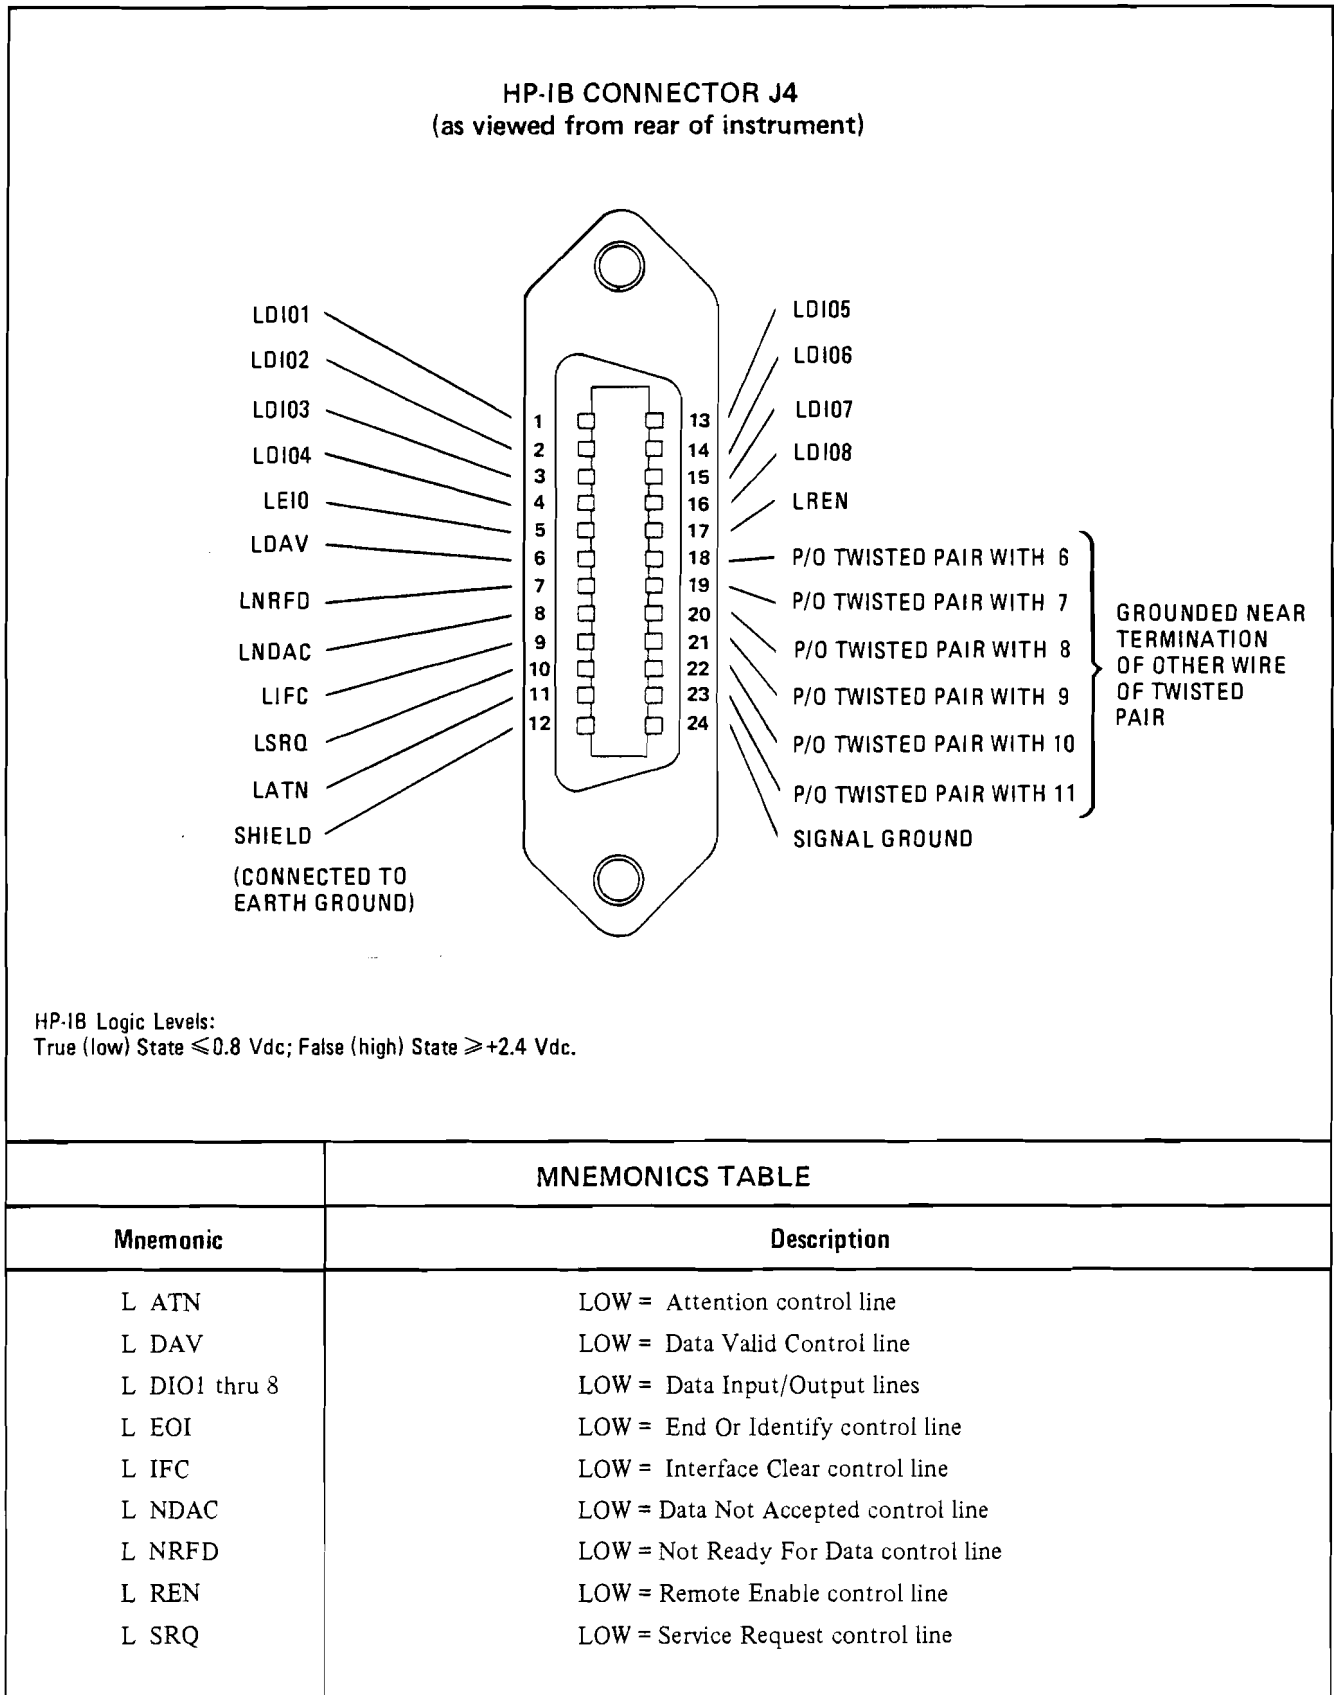
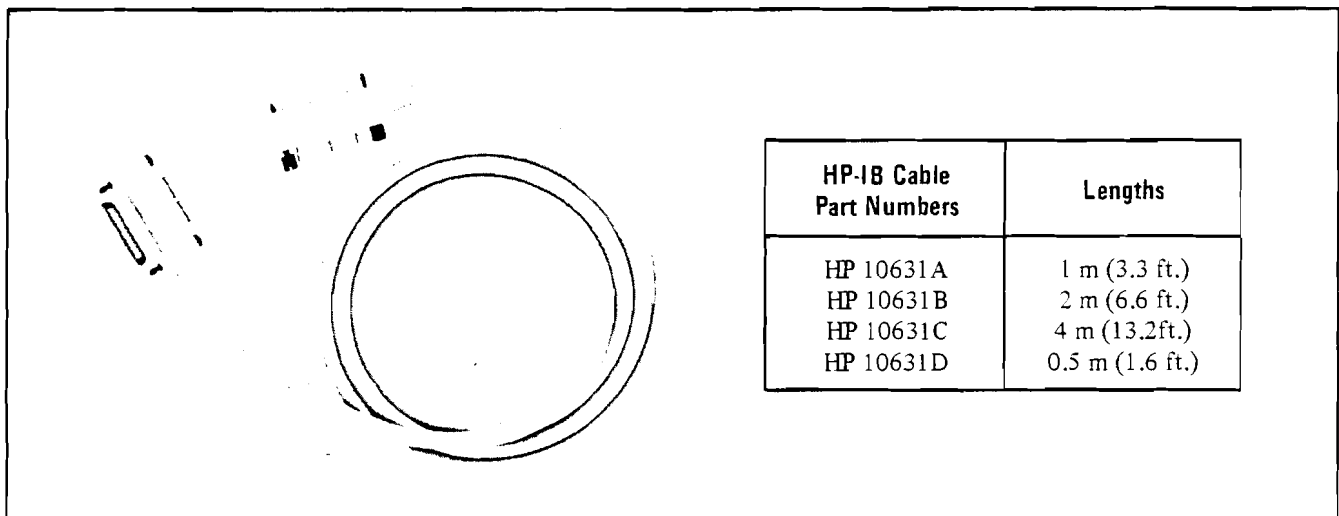

Figure 2-5. HP-IB Connector Signals and Pin Configuration
Figure 2-6. HP-IB Interface Cables Available
2-29. The HP-IB Interface Connector J4, located on the rear panel of the Model 8350A, allows the sweep oscillator to be connected to any other device on the HP-IB Interface Bus. A complete illustration of pin configuration and signals on the HP-IB Interface connector is given in Figure 2-5.
2-30. All instruments on the HP-IB Interface Bus are interconnected by HP-IB Interface Cables. One Model 10631B HP-IB Interface Cable is supplied with the Model 8350A. A list of the available HP-IB Interface Cables and their part numbers is given in Figure 2-6. As many as 15 instruments can be connected in parallel on the HP-IB Interface Bus. To achieve design performance on the bus, proper voltage levels and timing relationships must be maintained. If the system cable is too long or if the accumulated cable length between instruments is too long, the data and control lines cannot be driven properly and the system may fail to perform. Therefore, the following restrictions must be observed:
*Refer to Figure 2-6 for HP-IB Interface Cable information. HP-IB Interface connector J4 signals and pin configuration are given in Figure 2-5.